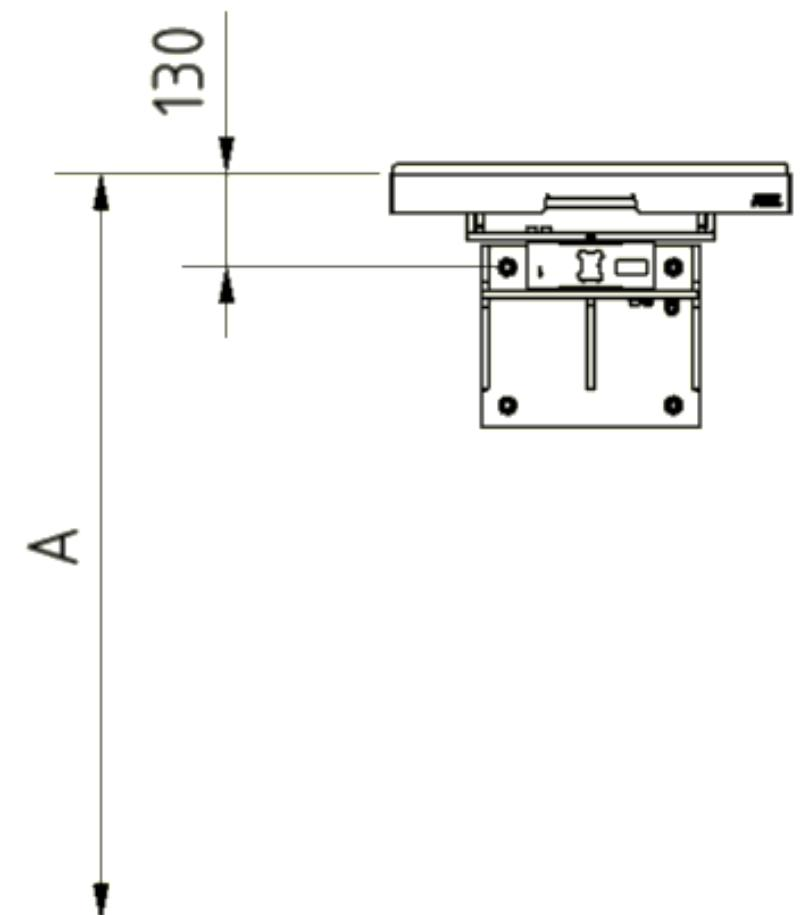

Figure 2: Positioning for desired mounting height
3. The mounting height (A) is the distance between the bearing plate and the finished floor (Figure 2). It can be tailored to the customer's needs. A mounting height (A) between 900 mm and 1000 mm is recommended for many applications.